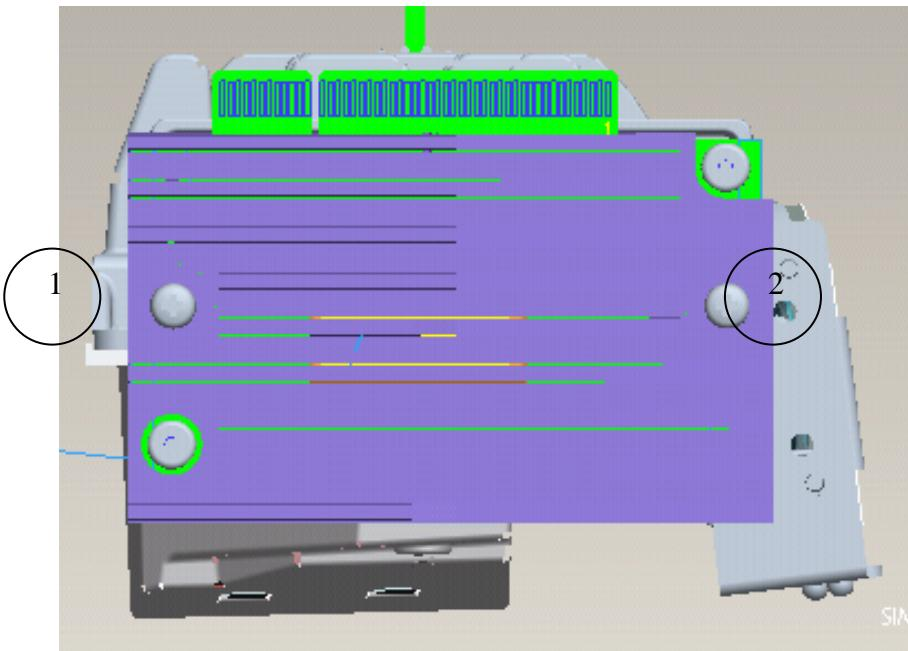

Fig. 10-8
10.8-2 Fasten “Assy spring screw” Sequence as blow (Fig.10-8)